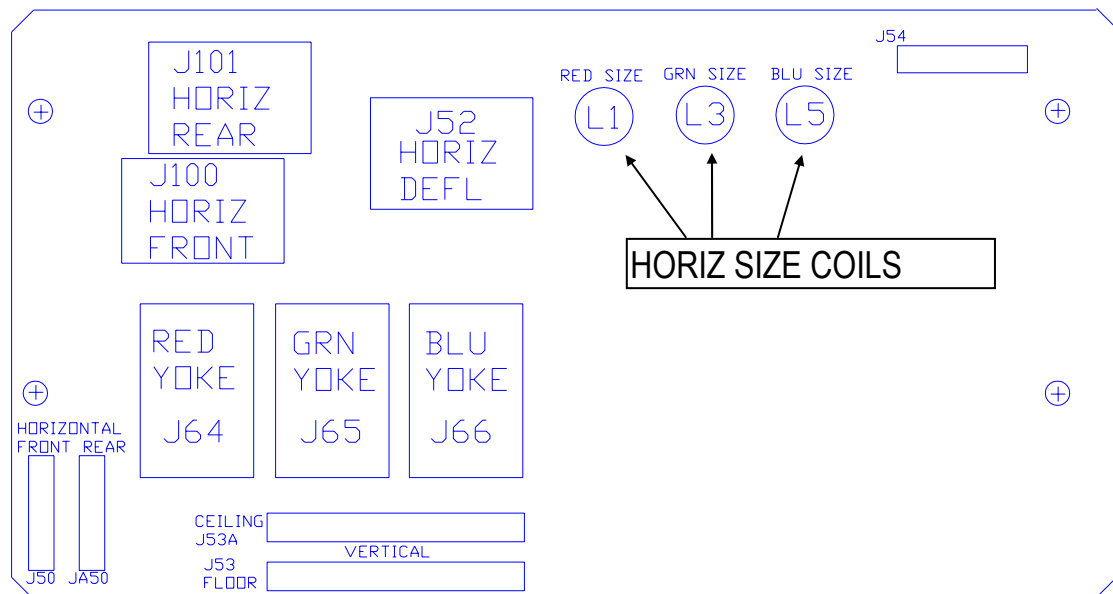

Figure 3-7. Scan Reversal Board.
The Horizontal Scan Reversal Jumper reverses the image projection for front or rear projection. Figure 3-7 illustrates the jumpers' location on the Scan Reversal Board, and the proper location for front and rear projection.
3. Verify that the jumper is plugged into JA50 and J101 for rear projection or J50 and J100 for front projection (See Figure 3-7). Change jumper if necessary.
The Ceiling/Floor jumpers invert the image vertically for use in situations using mirrors or ceiling projections. Figure 3-7 illustrates the location of the jumpers on the Scan Reversal Board and indicates the proper location for ceiling or floor projection. The Model 200 Projector is shipped in the normal vertical projection position with the jumper plug inserted into J53. For an inverted vertical setup this jumper plug must be inserted into J53A. (Refer to Figure 3-7).
4. Verify that the vertical jumper is inserted in the correct jacks for appropriate application, (see Figure 3-7). Change jumpers if necessary.
To adjust the horizontal size coils (see *Figure 3-7*):